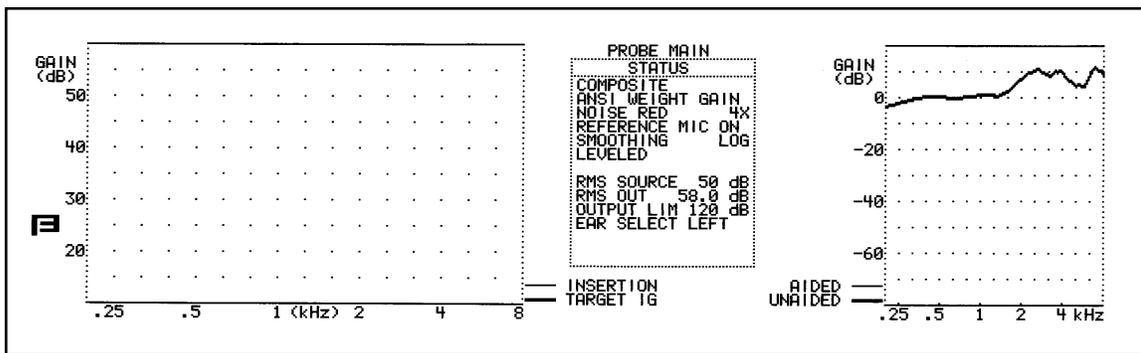

Figure 5.3.2—The unaided response
6. Press START/STOP to start the measurement. If you are using a composite source, press START/STOP again when the measurement stabilizes to stop the measurement. See Figure 5.3.2.